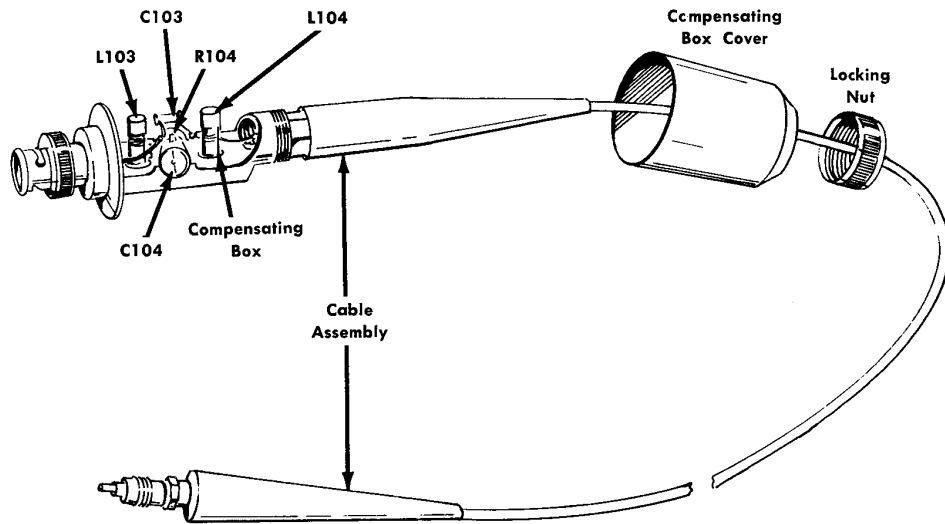

Fig. 4-2. P6008 Probe Compensating Box Assembly.
1. Remove the Compensating Box Cover by unscrewing the Locking Nut that holds it in place (see Fig. 4-2).
3. Set C104 (see probe schematic and Fig. 4-2) to maximum capacitance. Maximum capacitance of C104 is determined when the display shows a minimum spike, or some roll-off.
5. Use items 3, 4, 5, 6, and 7 of Equipment Required, and connect the probe to the 50-ohm fastrise square-wave generator. Use the 20-nsec cable with the generator as the chargineline to obtain a 40-nsec pulse.